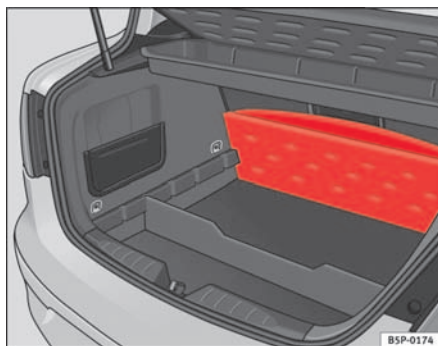

Fig. 103 Foldable luggage compartment cover
- Lift the luggage compartment floor and fold it back all the way ⇒ fig. 103.